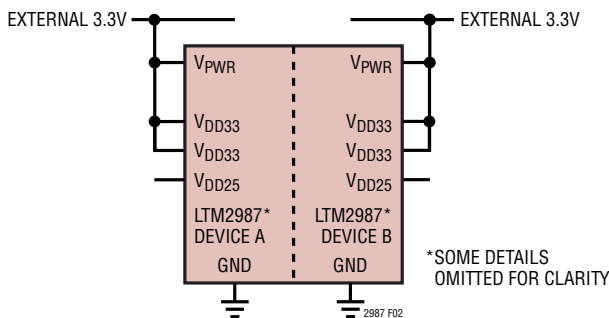

Figure 2. Powering LTM2987 from External 3.3V Supply
Alternatively, power from an external 3.3V supply may be applied directly to the V_{DD33} pins using a voltage between 3.13V and 3.47V. Tie V_{PWR} to the V_{DD33} pins. See Figure 2. In this case, VDD33(A) and VDD33(B) may be tied together. All functionality is available when using this alternate power method. The higher voltages needed for the V_{OUT_EN}[0:3] pins and bias for the V_{SENSE} pins are charge pumped from V_{DD33}.